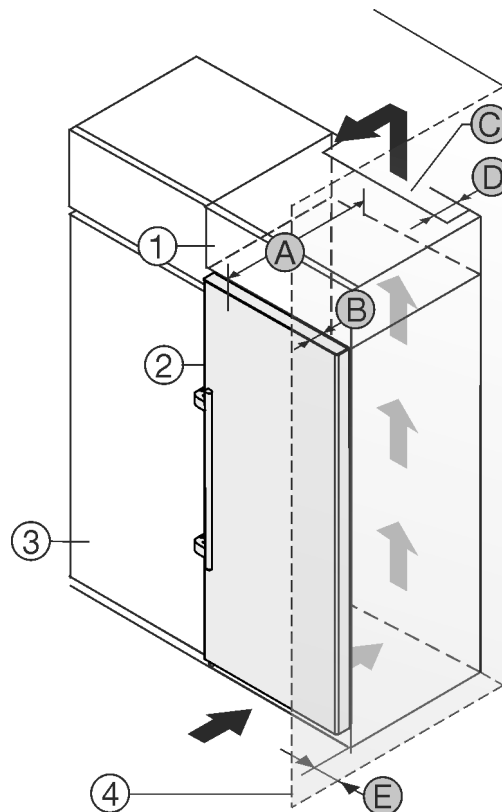

Fig. 1
You can place the appliance directly beside the kitchen cabinet *Fig. 1 (3)*.
There must be a ventilation shaft at the depth *Fig. 1 (D)* of the back of the top cupboard over the entire width of the top cupboard.
The ventilation cross-section *Fig. 1 (C)* must be maintained under the ceiling.
If the appliance is set up with the hinges next to a wall *Fig. 1 (4)*, the distance between the appliance and the wall must be at least 57 mm. This is how far the handle protrudes when the door is open.
In order to be able to fully open the door, the appliance must protrude by the depth of the door *Fig. 1 (B)* from the front of the kitchen cabinet. The appliance may protrude further depending on the depth of the kitchen cabinets *Fig. 1 (3)* and whether wall spacers are used.